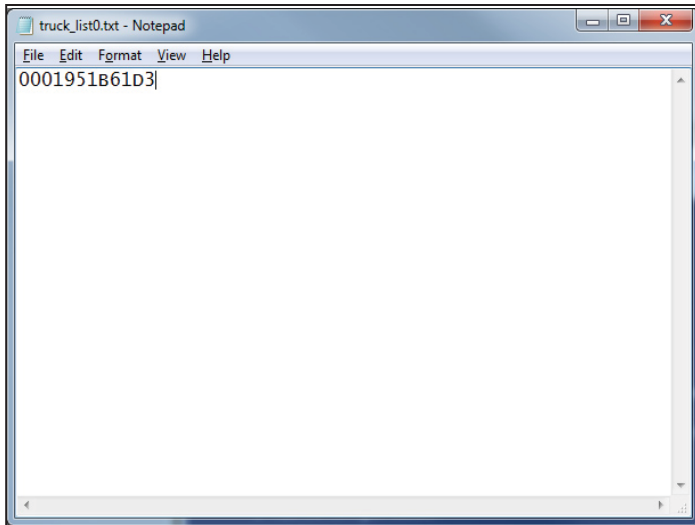

Fig. 13 Truck List
10. Go to My Documents and open the folder entitled BinMaxx XL. Look for a document entitled "truck_list0.txt." Open this document (Fig 13).